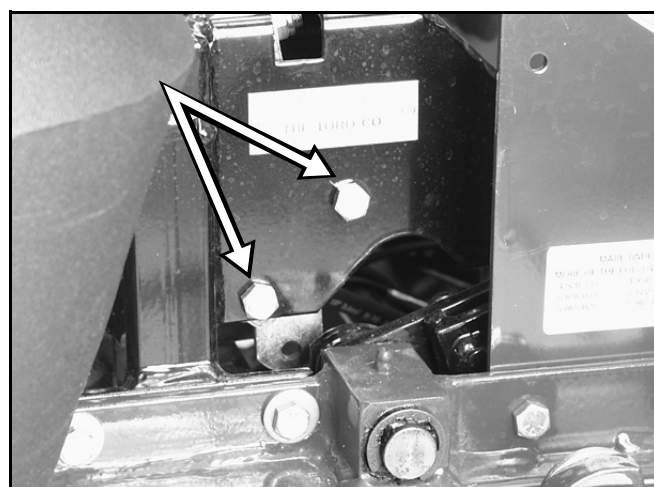

Figure 74
8. Remove the bolt securing the bell crank outside bearing (Figure 74).